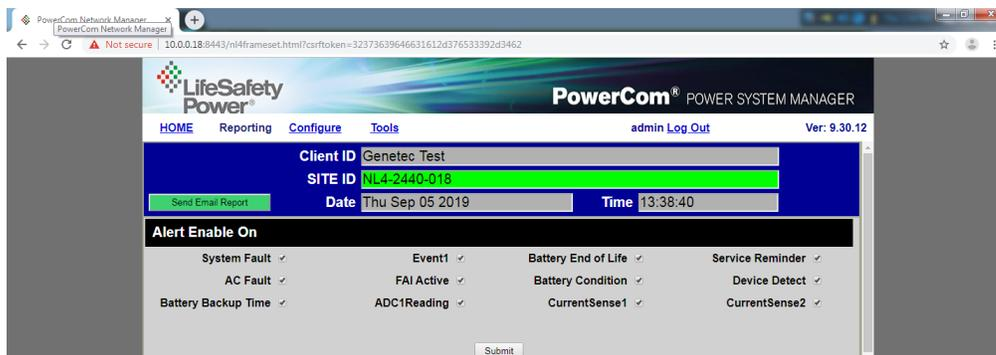

Figure 27
- Open the NetLink's reporting page and select the events to reported. (Figure 27).